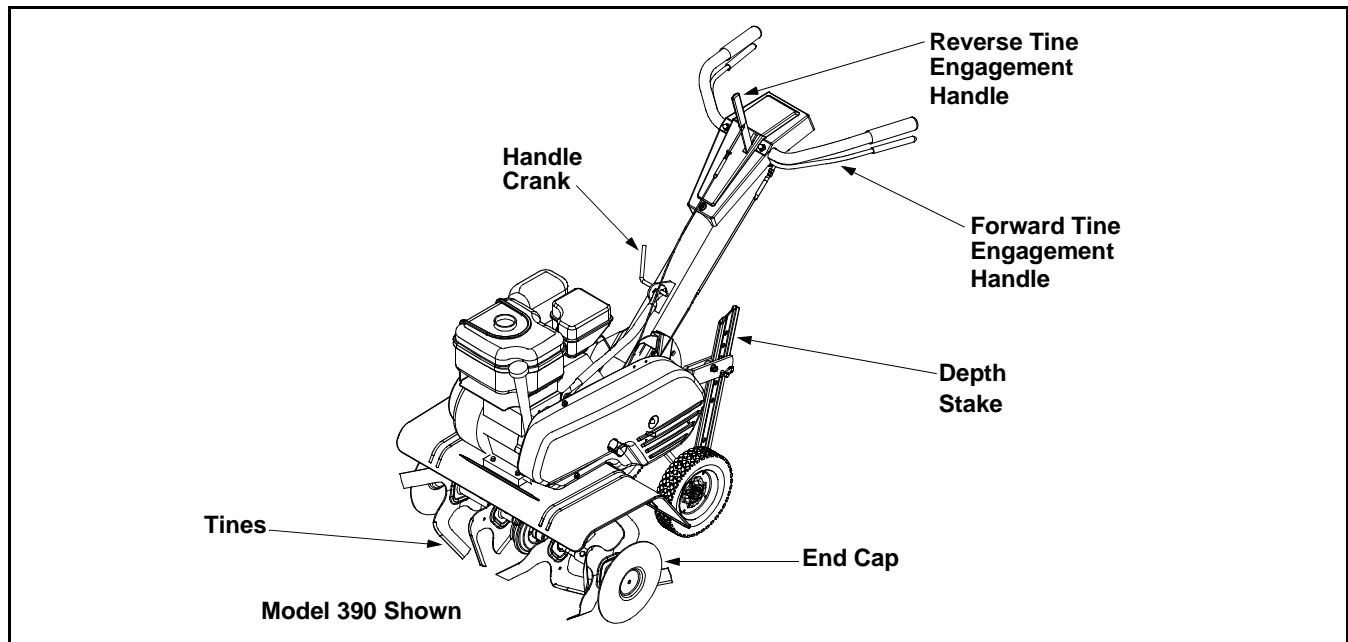

Figure 8
The forward tine engagement handle is located beneath the tiller handle. Squeezing the handle up against the tiller handle engages the tines. Release the handle to stop the tines. See Figure 8
The reverse tine drive clutch lever is located on top of the handle panel. Pull the lever to the rear to move the tines in reverse. Release the lever to stop the reverse tine drive. See Figure 8
- Make certain all controls are in the neutral position (released). See Figure 8.
- Push primer two (2) or three (3) times. Wait about two (2) seconds between each push.
**NOTE:** If engine fails to start after three (3) pulls, push primer two (2) times and pull starter rope again.